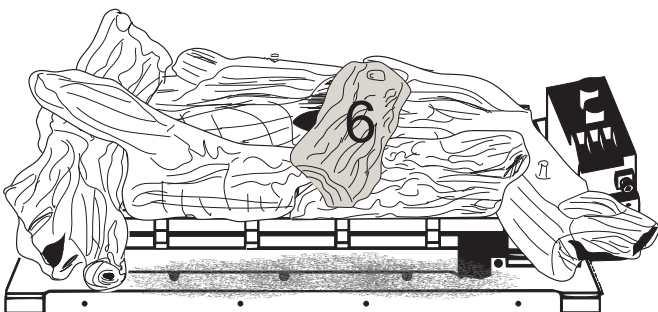

Figure 6.7 - Log #6 Placement
7. Hold log #6 with the flat end toward the back. Place log #6 by positioning the pin locator hole on the bottom of the log over the pin on log #2 and set on top of log #4. See Figure 6.7.